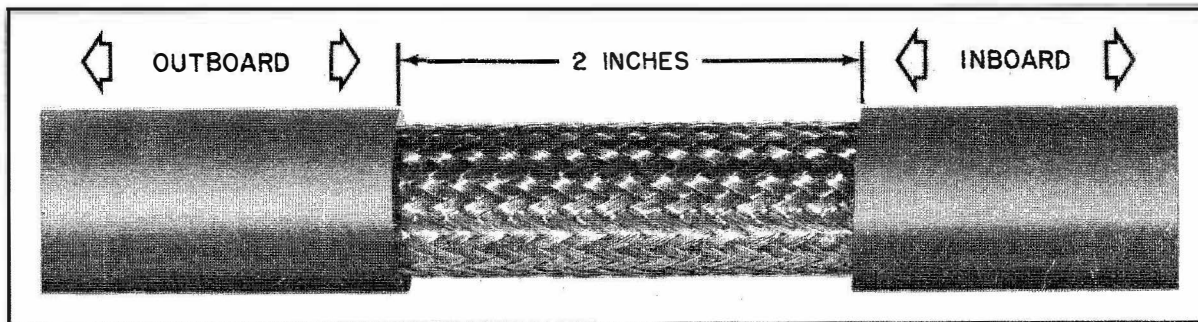

Figure 5-8c. Cable Section, Jacket Removed
Step 2. - Cut around the jacket at the point where the jacket will terminate inside the outboard end of the hull fitting and at a point two inches toward the inboard end of the cable. Make a cut the length of the 2 inch section and remove the jacket. Figure 5-8c illustrates this step.